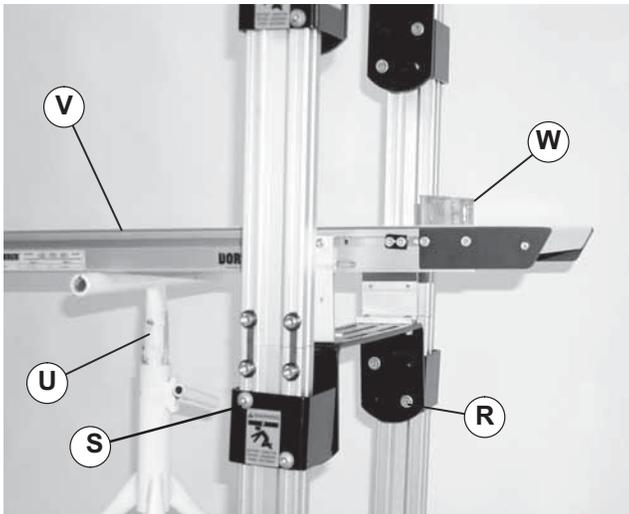

Figure 12
1. Install a support (Figure 12, item U) below conveyor (V) that will be adjusted.
Loosening conveyor height adjustment screws (Figure 12, item S) or angle adjustment screws (R) may cause conveyor to drop down, causing severe injury. SUPPORT CONVEYOR PRIOR TO LOOSENING ANY OF THESE SCREWS.
2. Loosen two flange socket head screws (Figure 12, item R) on each side of conveyor (V).
3. Loosen two button head screws (S) on each side of conveyor (V).
4. Adjust conveyor to desired height. Using a level (W), ensure conveyor is level from side to side.
Failure to secure screws (Figure 12, item R and S) may cause conveyor sections to drop down, causing severe injury. TIGHTEN SCREWS (R and S) AFTER ADJUSTMENT.
5. Tighten two flange socket head screws (Figure 12, item R) on each side of conveyor (V) to 24 ft-lb (33 N-m).
6. Tighten two button head screws (S) on each side of conveyor (V) to 17 ft-lb (22.5 N-m).
2. Adjust conveyor to desired angle. Using a level (Figure 12, item W), ensure conveyor is level from side to side.